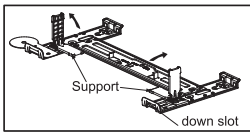
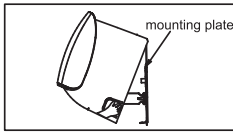

Fig. 10
Fig. 11
- 3) Open the two supports on the wall mounting plate to 90 degrees as shown in Fig. 10 and move the unit step by step to reach the best location(Fig. 11).